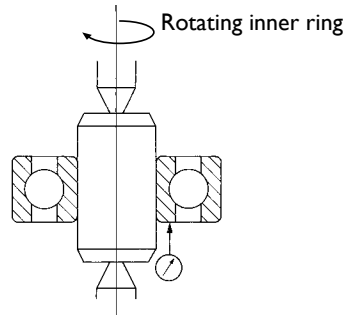

Figure 2-5
- Side Runout of Inner Ring (S_d) Figure 2-5